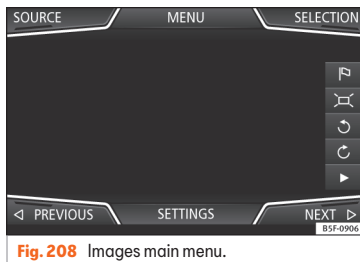

Fig. 208 Images main menu.
- Press the **SOURCE** »» Fig. 208 function button and select the data storage device where the images are stored.